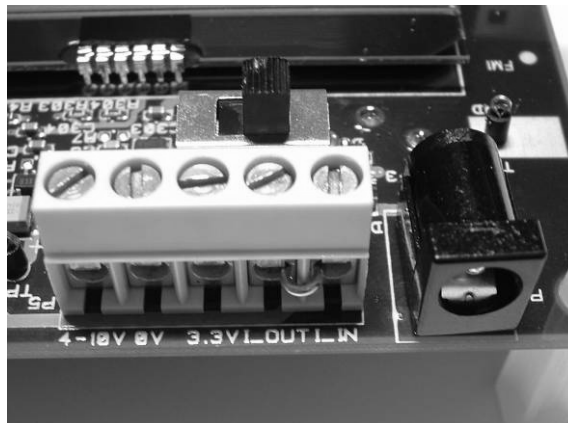

Figure 5: Power connector
- **Laboratory power supply.** Ground should be connected to the 0V terminal on the power connector (see Figure 5). A 4-10V supply can be connected to the "4-10V" terminal, or a 3.3V supply can be connected to the "3.3V" terminal (the on-board voltage regulators will be bypassed in this case). If a 3.3V supply is used, the supply selection switch should be set to the "3V" position, otherwise the "4-10V" position should be used. If the "4-10V" position is selected, a voltage regulator supplies the circuitry on the SmartRF04EB; otherwise the 3.3V supply is applied directly to the SmartRF04EB.